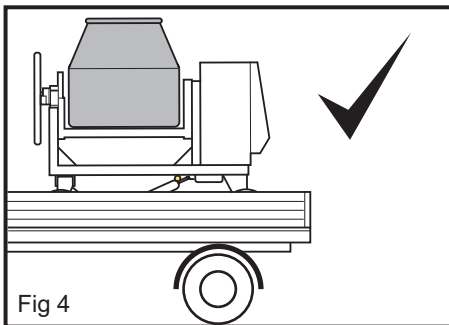

Fig 4
- The mixer **MUST** only be transported with the drum mouth facing **UPWARDS** (Fig. 4 & 5)